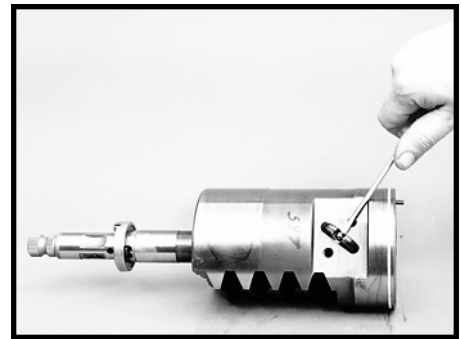

Figure 75
35. Remove the two ball return guide halves (44). SEE FIGURE 75.